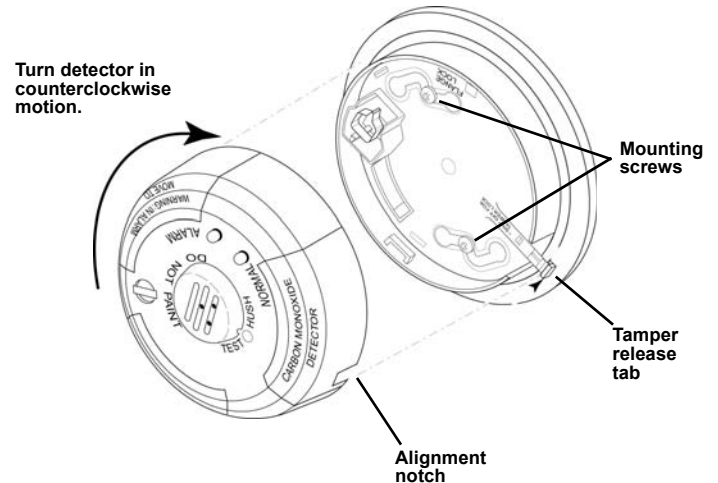

Figure 4 Mounting the wireless CO detector
- Referring to figure 4, use the included mounting screws and dry wall anchors to mount the wireless CO detector.
- Referring to figure 4, fit the detector inside the base by aligning it such that the detector's alignment notch is slightly offset from mounting base's tamper release tab.